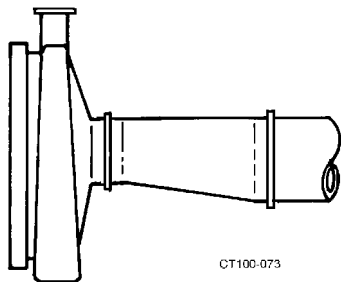

Figure 17 - Correct Eccentric Installation
- If a reducer is connected to inlet, use eccentric type to prevent problems due to trapped air. (Figure 17)